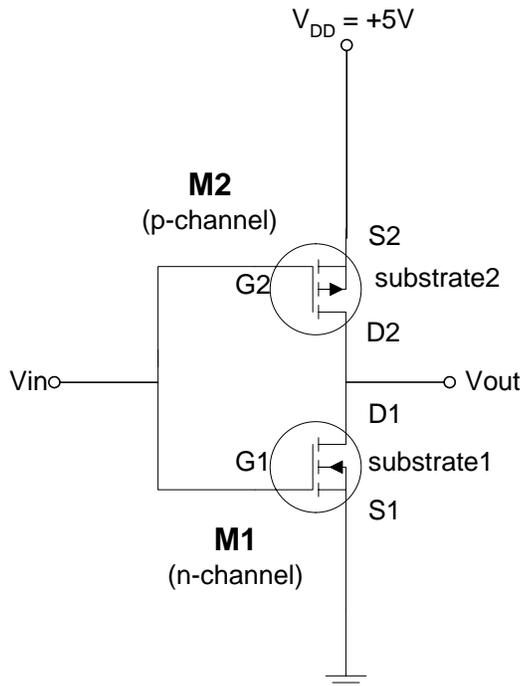

Figure 3 CMOS Inverter
1. Connect the circuit shown in Figure 3. Apply a triangular wave of frequency about 1000Hz and of 10V peak-to-peak to the circuit supplied from a dc supply of 5V.